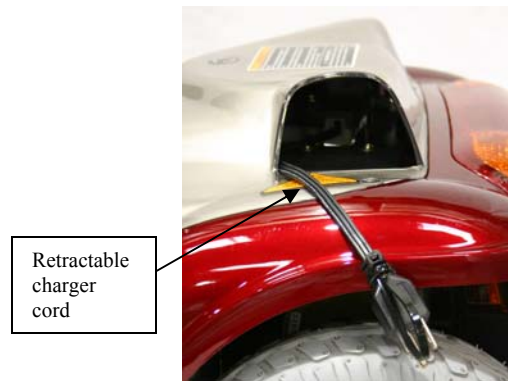

Figure 10
**Retractable charger cord (FOR TE-778L & TE-888L equipped with an on board charger) (Fig. 10)**